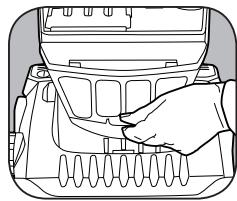

Fig. 1
1. Unplug the vacuum. Remove the filter cover below the dust compartment cover (Fig. 1).